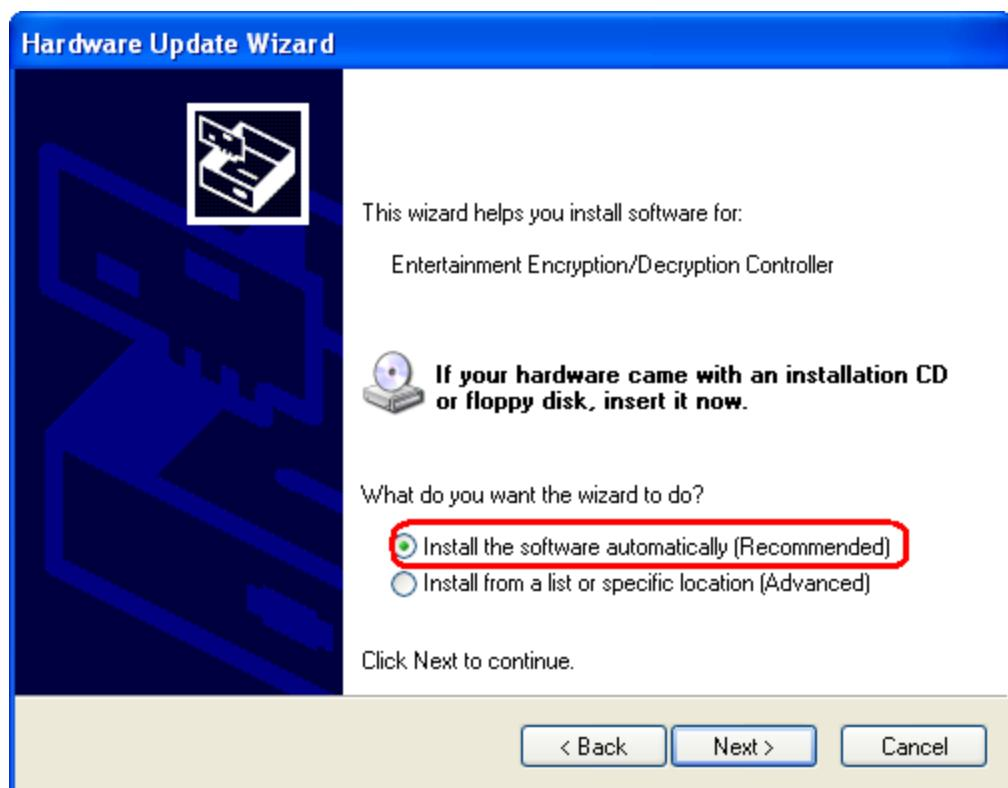

Figure 7-37: Entertainment Encryption/Decryption Controller Driver Installation Start
Step 67: The screen in **Figure 7-37** appears.
Step 68: Select the recommended option in **Figure 7-37**.